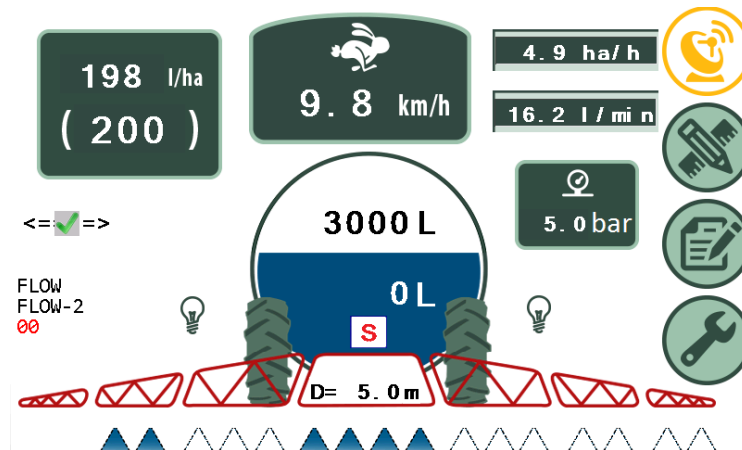
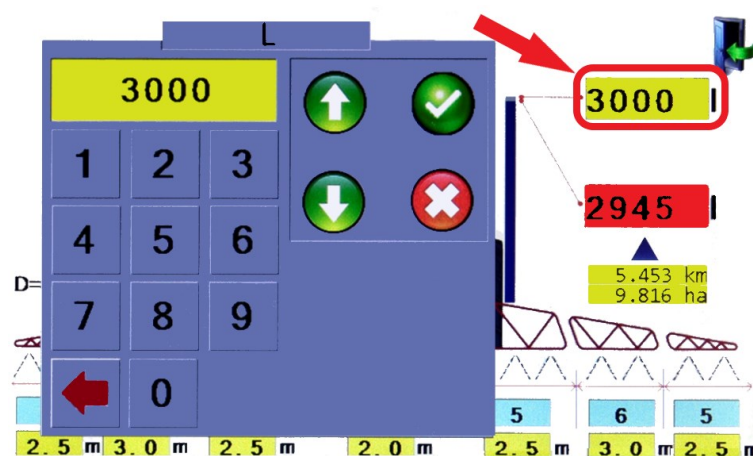
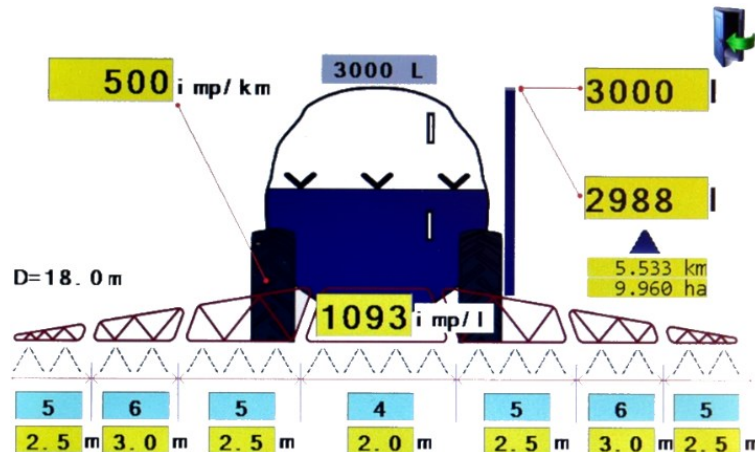

Figure 10
Figure 11
Figure 23
The use of the screen allows you to control the spray regulation completely. The main menu of the AG-TRONIK screen is presented in the picture below (Figure 10).
- Enter the current amount of the chemical preparation by pressing  icon on main menu (Figure 10), then press the field marked with the arrow and, finally, enter the filled or initial quantity added to the reservoir (Figure 11).
- HD can also be set by pressing  icon on main menu (Figure 10), and then  icon.
icon on the main menu (Figure 10), which leads to a sub menu (Figure 23).